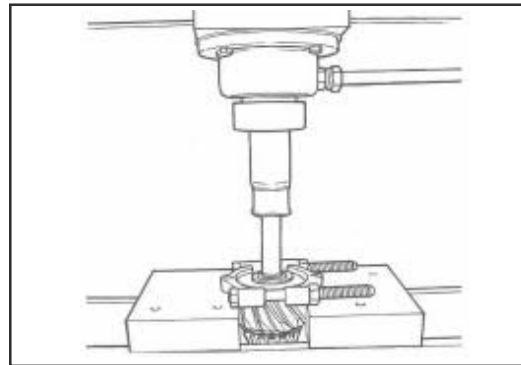

Fig.10
9. Remove the pilot bearing in a press (Fig.10).